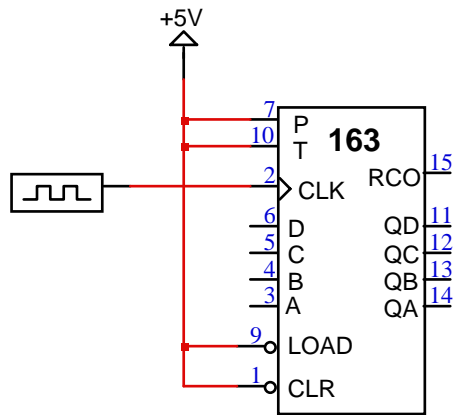

Figure 2. Frequency Divider Circuit
1. Using a 74LS163 IC package, set up the circuit shown in Figure 2. (The power and ground connections are not shown. You should check the data sheet to determine which pins correspond to power and ground pins if you don't know.)